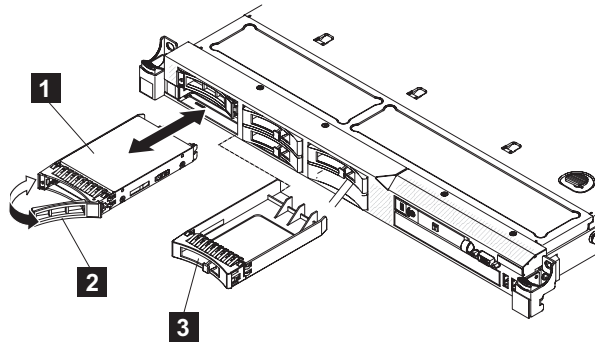

Figure 110. SAN Volume Controller 2145-CG8 or 2145-CF8 drive and drive-bay filler
- b. Align the drive assembly with the guide rails in the bay, as shown in Figure 110 on page 130.